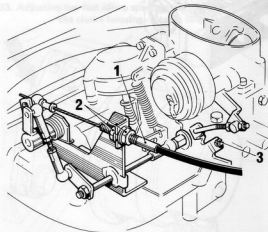

Fig. 3.42. Throttle cable details - typical (Sec. 14)
- 2 First remove the inner cable ball end from the carburettor lever and detach the outer sleeve from the bracket (Fig. 3.42).